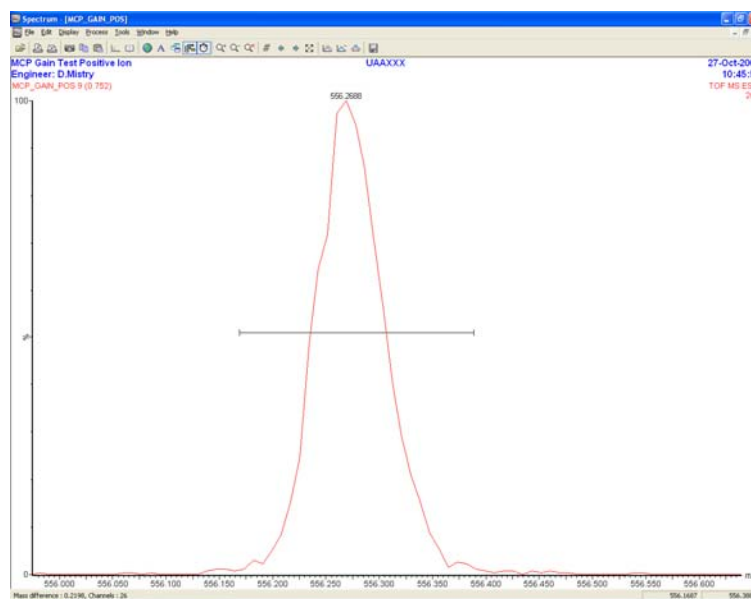

Figure 22 - Main leucine enkephalin peak
10. On the spectrum window, right-click and drag across the main leucine enkephalin peak to display the extracted mass chromatogram of that peak, as shown in Figure 22.